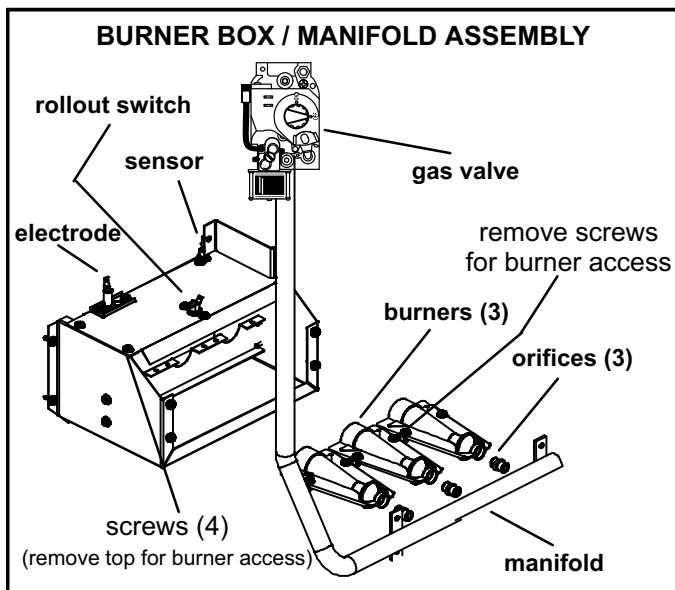

FIGURE 7
2. Disconnect wiring to the gas valve, electrode/flame sensor and rollout switch. Remove top of burner box (4 screws). See figure 7.
Rollout switch S47 is a high temperature limit located on the burner box (figure 7). The switch is N.C and in series with ignition control A3. When S47 senses flame rollout (opens), the gas valve is de-energized. The switch is factory set at 350°F and cannot be adjusted. S47 can be manually reset when temperatures allow.